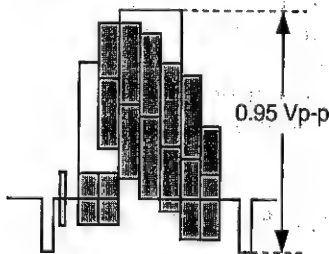

Figure 5-6.
5. Make sure that the output signal amplitude is 1.0Vp-p as shown in Figure 5-6.